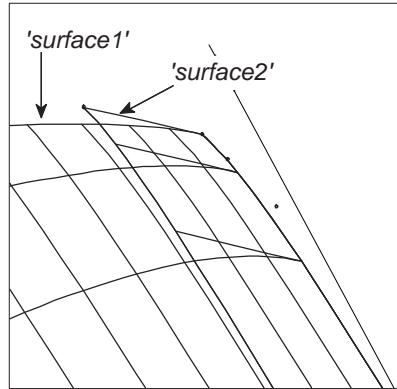

Fig. 17 Lat 1.7, Lon -52, Tilt 59.5
- 5 Click on point 'pt17',  and rotate the model. With the two surfaces end-on you should be able to see that 'surface1' ends tangent to the new surface (Fig. 17).